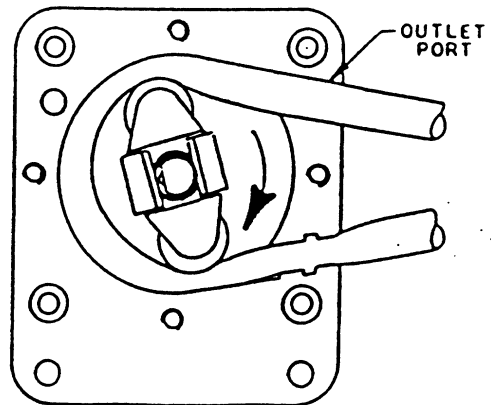

FIG. 4
- 9) Finally, insert tubing into outlet port (fig.4) and replace cover.
- 9) Finally, insert tubing into outer port (Fig. 4), and replace cover and screws.